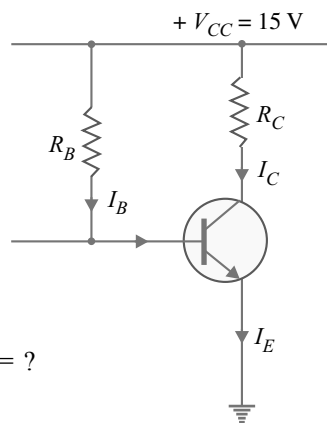

Fig. 7.11
**Solution.** Fig. 7.11 shows CE amplifier using base resistor method of biasing.